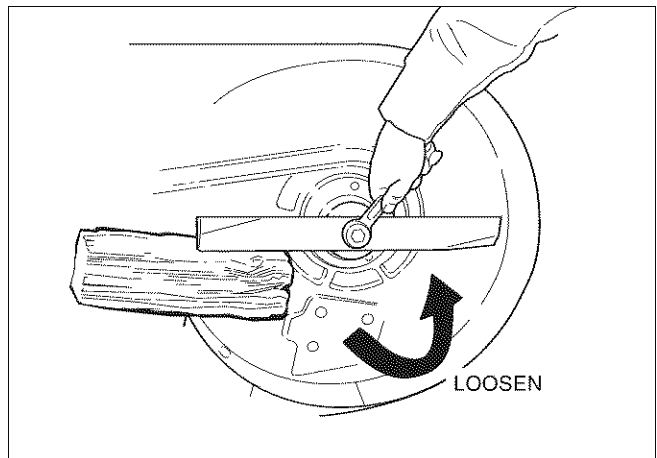

Figure 17. Blade Removal
2. See Figure 17. To remove blade for sharpening, use a block of wood to prevent blade rotation while loosening the capscrew.